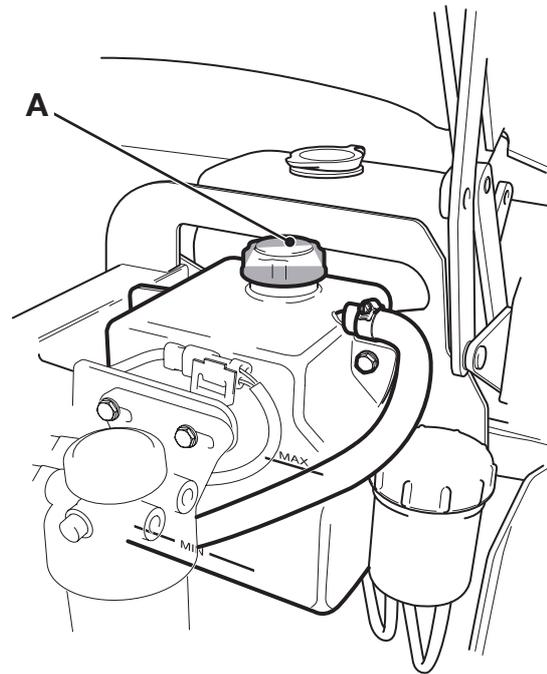

Fig 42.
- 2 Carefully loosen cap **A** on the coolant reservoir. → Fig 42. \(□ 3-47\). Let any pressure escape before removing the cap.